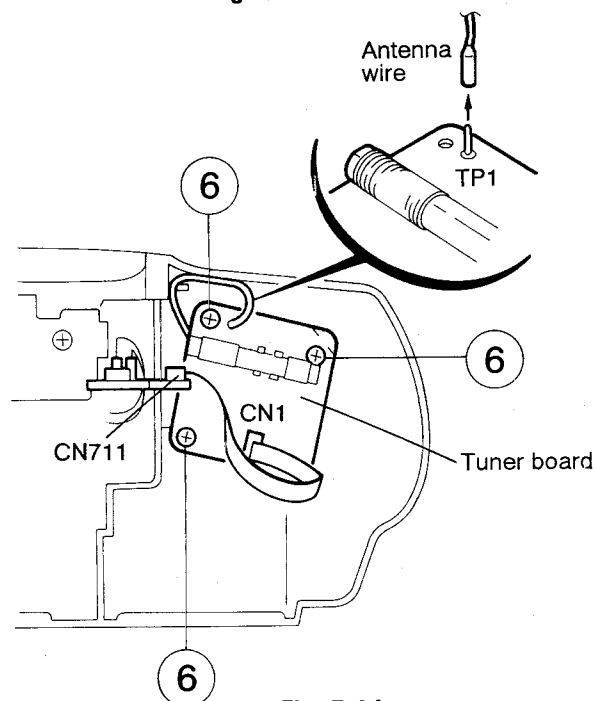

Fig. 5-14
■ Removing the tuner board (See Fig. 5-14)
4. Remove the three screws (6) retaining the tuner board.